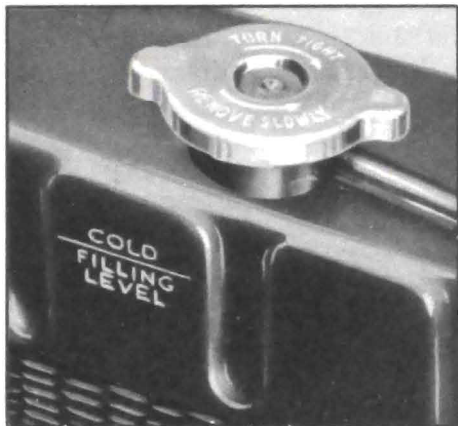

Figure 1-7—Radiator Filling Level—Cold
11. *Radiator.* Check coolant level when engine is cold and add water to line marked "Filling Level—Cold" stamped on rear side of head tank. See figure 1-7. **CAUTION:** *Radiator cap should not be removed when engine is hot because relieving the pressure may cause the cooling system to boil, with resultant loss of water or anti-freeze solution. Filling radiator when hot, or filling above level line may result in loss of water or anti-freeze solution through overflow pipe.*